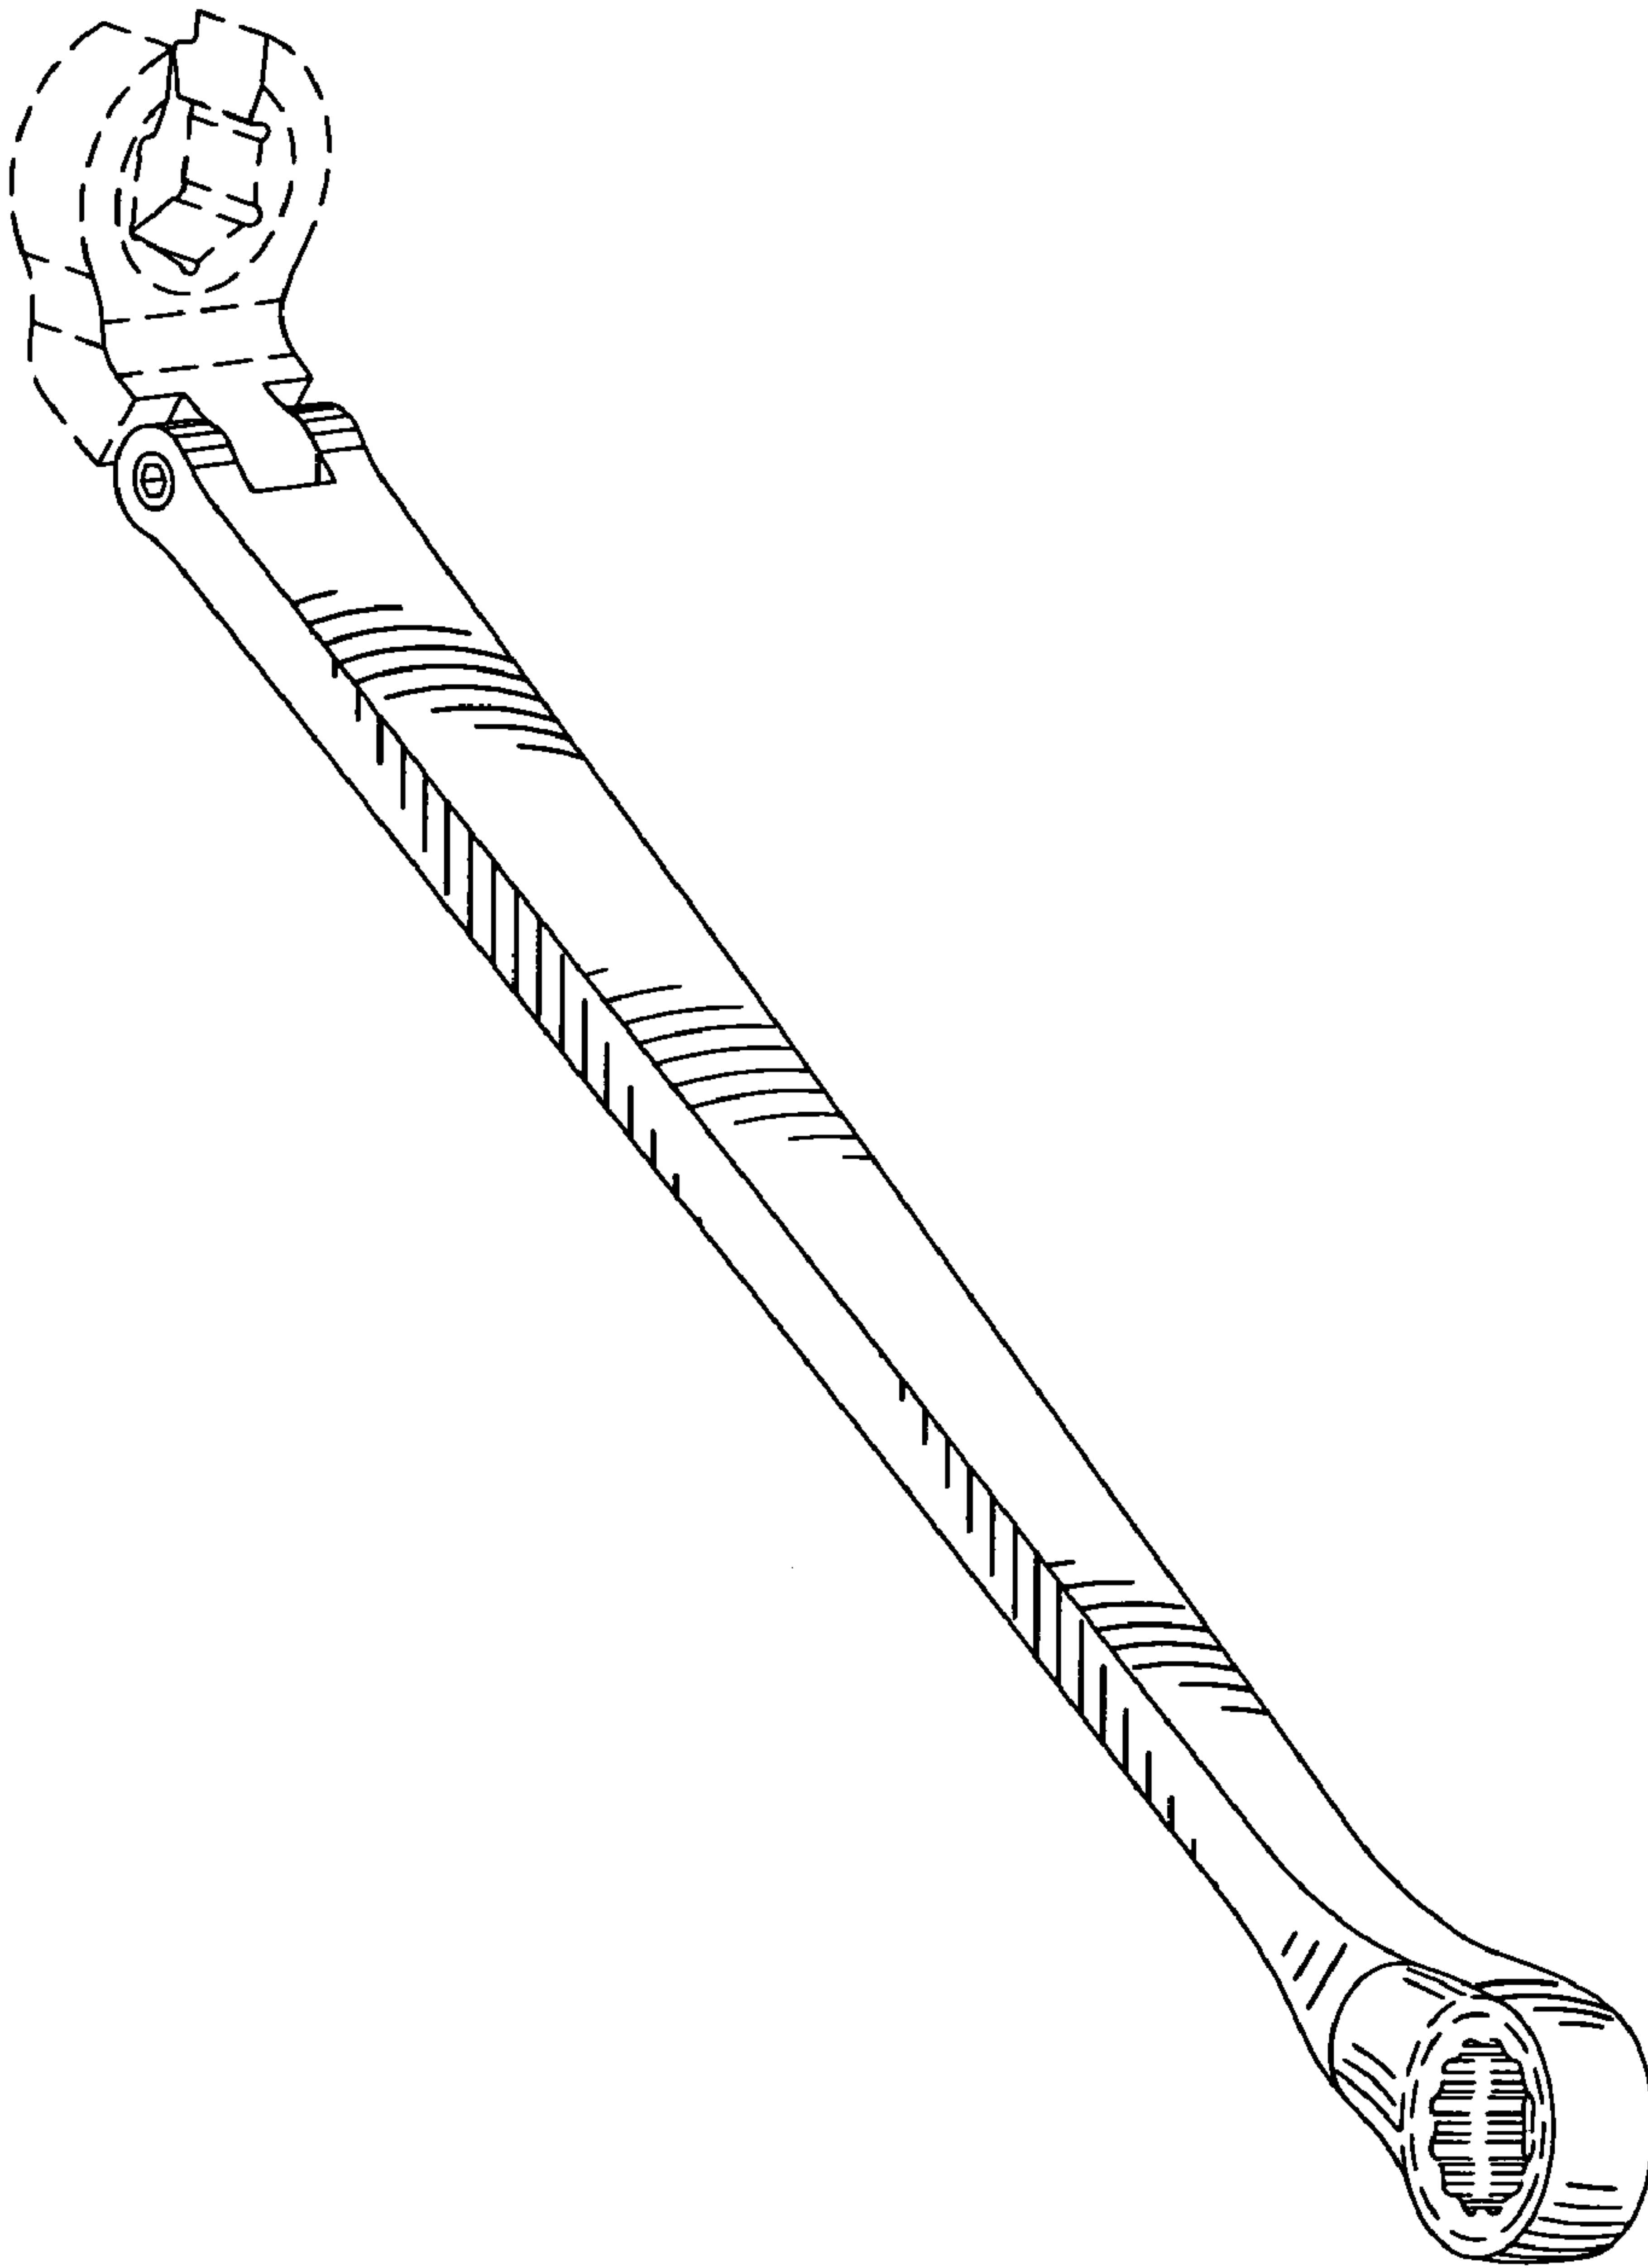
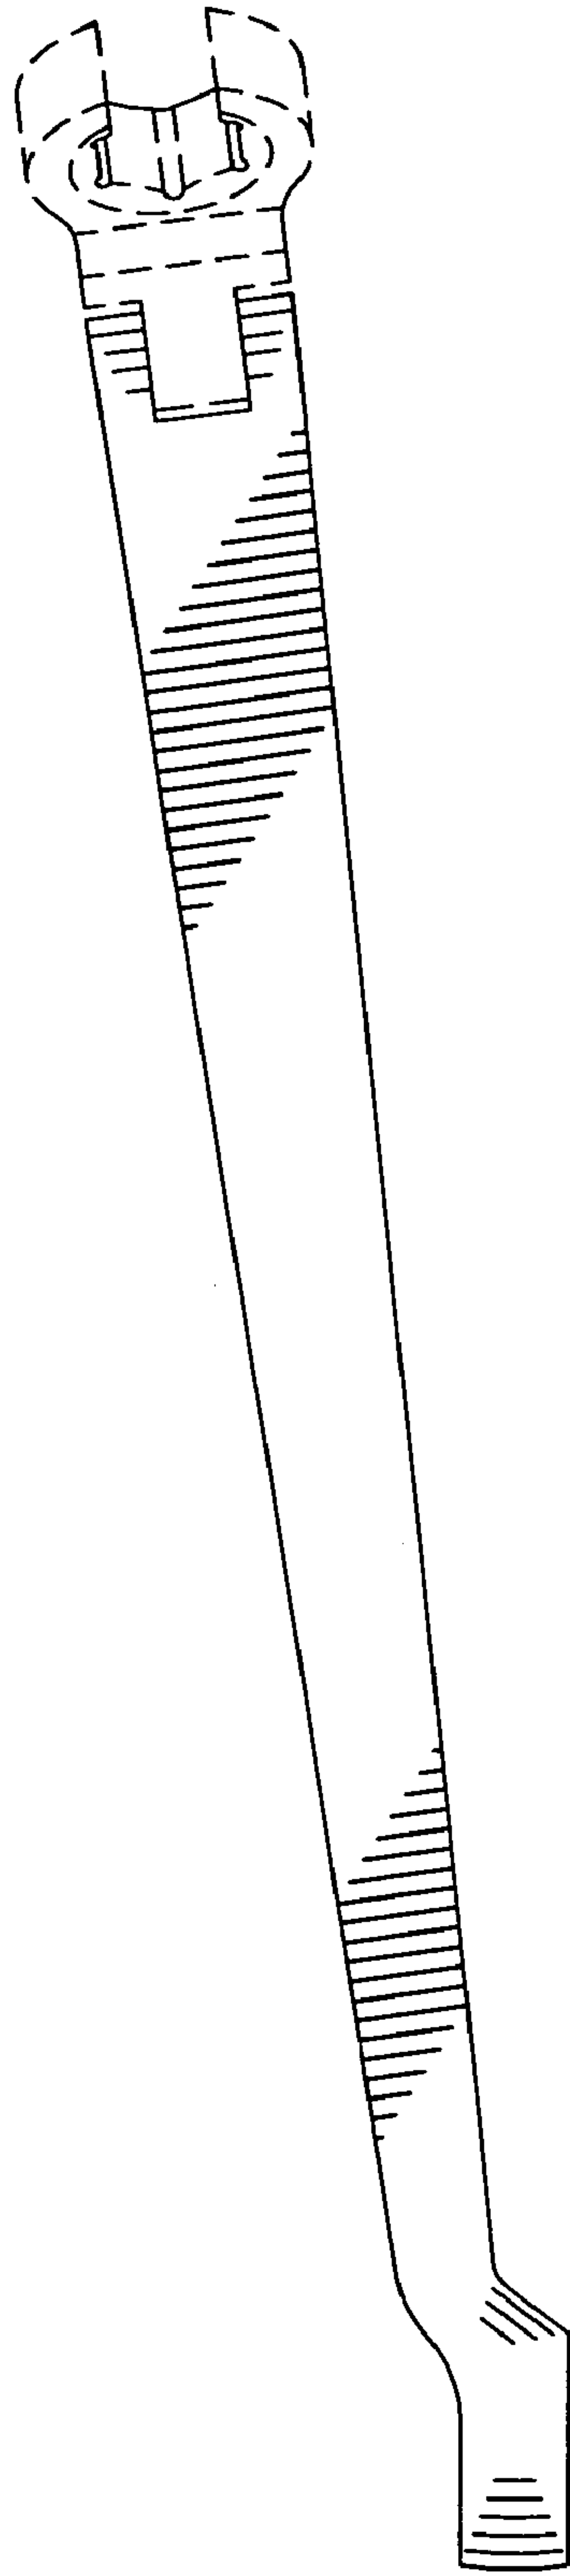

FIG 12
FIG 13
FIG. 12 is a perspective view (IV) of the spanner in a position of use.
FIG. 13 is a front elevational view of FIG. 12.